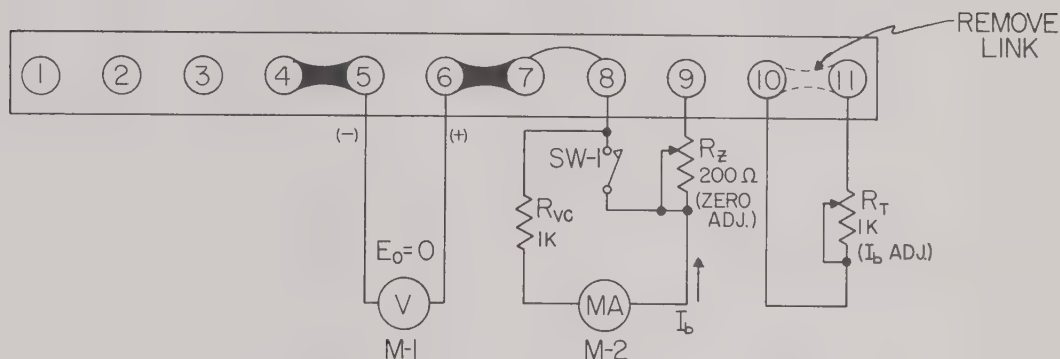

FIG. 3-2 PROGRAMMING RATIO CALIBRATION, METHOD #1
- a) Connect calibration set-up as shown in Fig. 3-2.